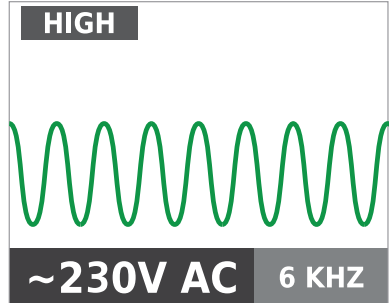

Figure 3.2b
3. Select HIGH signal mode for most applications. Screen will appear as shown in Figure 3.2b.